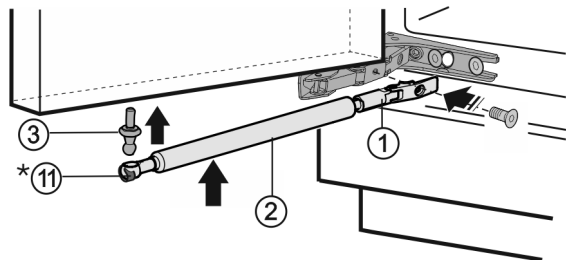

Fig. 9
- ▶ Screw the ball stud Fig. 9 (3) securely into the new fixing hole **applying a pressure of 3 lb/ft (4 Nm)** einschrauben (Torx® 25).
- ▶ Push tension spring Fig. 9 (11) inwards again.*
- ▶ Securely tighten theretainer Fig. 9 (1) **by applying a torque of 2.5 lb-ft (3 Nm)**.
- ▶ Attach soft stop mechanism Fig. 9 (2) to ball stud.